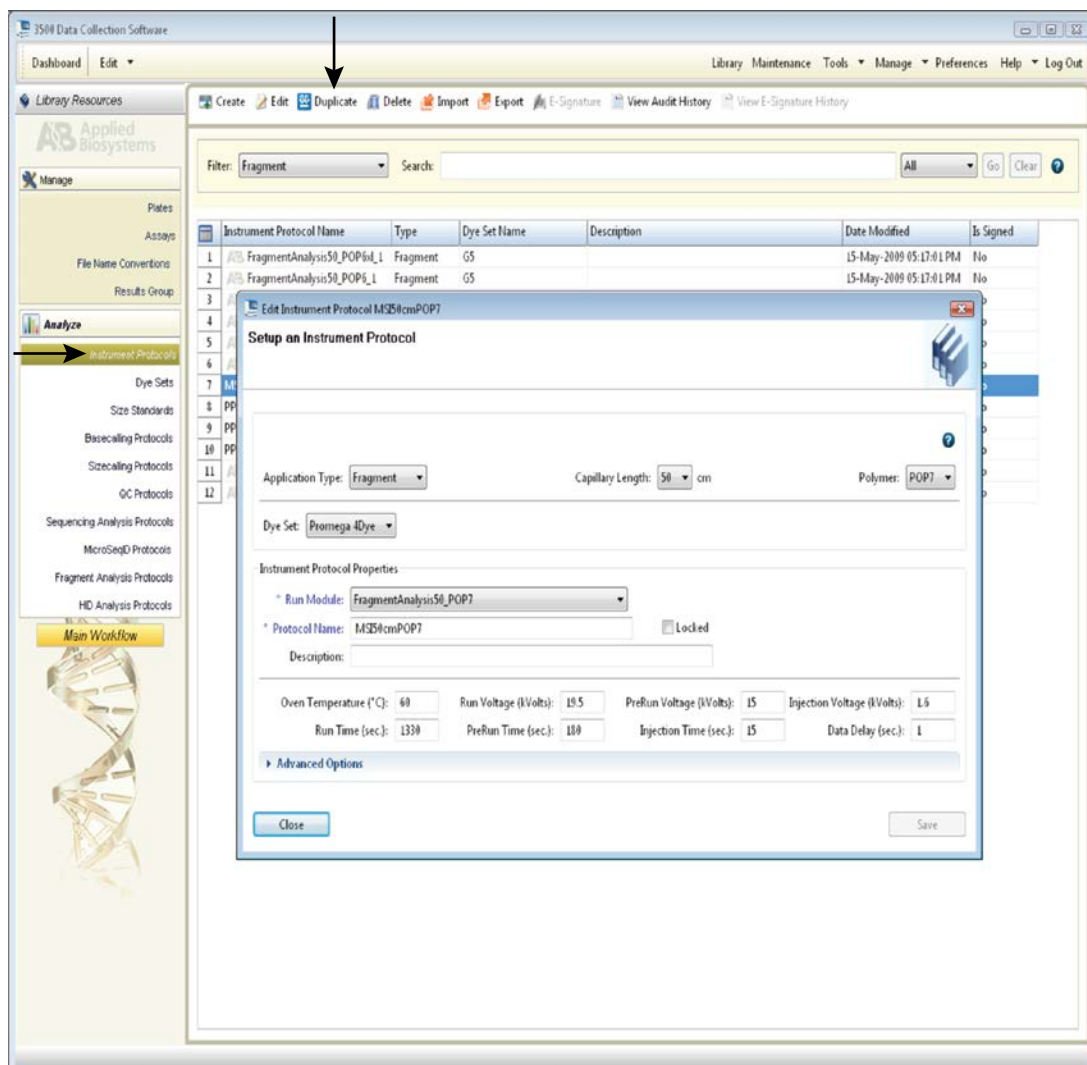

Figure 5. The Setup an Instrument Protocol window.
- To set up an Instrument Protocol, navigate to the Library, select “Instrument Protocols” from the navigation pane, and choose “Fragment” as the Filter. Choose the default protocol that is the most similar to the one you will be using from the list of protocols, and duplicate it (Figure 5). Do not choose “Create”. For example, if you are using an 8-capillary 3500 Genetic Analyzer with a 50cm array and POP-7® polymer, choose “FragmentAnalysis50\_POP7\_1.”, and select “Duplicate”. Edit the copy of this Instrument Protocol, and fill in the drop-down menus as appropriate for your configuration. Make sure you choose “Fragment” as the Application Type, and select the dye set that you created in Section 4.B. The Run Module will be “FragmentAnaysis50\_POP7”. Assign the Instrument Protocol a meaningful name so that it will be clear what the Instrument Protocol can be used for in future runs. Leave all run options and Advanced Options as the default values. It is possible to change default injection parameters later if necessary later. Select “Save” and “Close”.